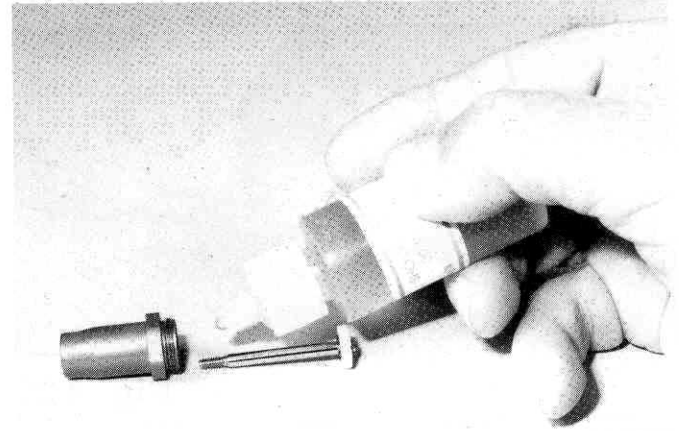
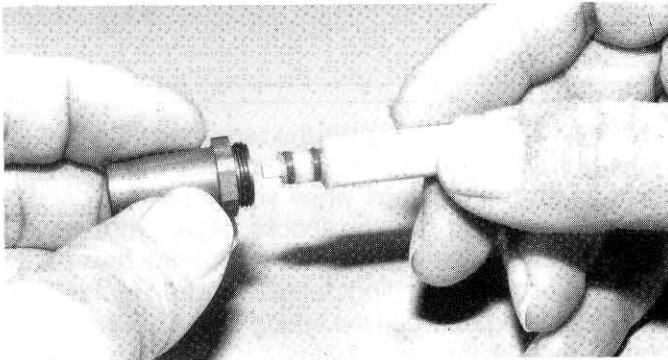

Fig. 98
Fig. 95
□ **Fig. 98** After the split washer is fully seated, place a liberal amount of oil on the short shock shaft and slowly push it into the shock, and pull it all the way to the bottom.
□ **Figs. 95, 96, & 97** Now take the shock body and the installation tool and push the parts slowly into the shock body all the way down until it bottoms out. Then give it a hard push to seat the split washer. You should be able to hear the washer snap into place. Pull the installation tool out. Look into the shock body to check the installation. **IMPORTANT!** The split ring should look like fig. 97. If it looks like fig. 98, then the washer is not seated in the lock groove and the shock will come apart. **MAKE SURE THE WASHER IS FULLY SEATED IN THE GROOVE.** (Note: To remove the parts, take the installation tool, insert it up through the bottom of the shock, and push the split washer out.)